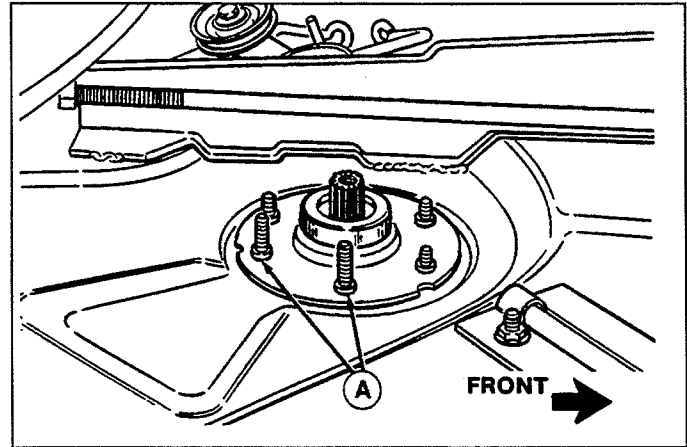

Figure 3.
6. See figure 3. Replace the two 3/4 taptite screws as shown with two 5/16-18 x 7/8 capscrews supplied.